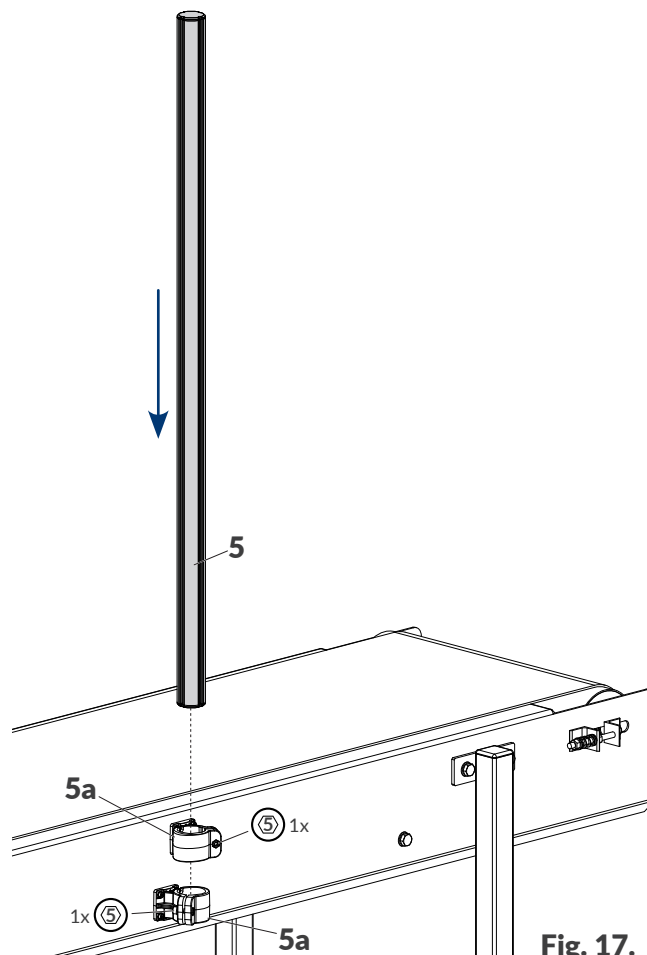

Fig. 17.
3. Install support beam **5** in holders **5a** by inserting it according to **Fig. 17**. Use the #5 hex key to tighten the appropriate screws that are parts of holders **5a**, clamping the holders on support beam **5**.